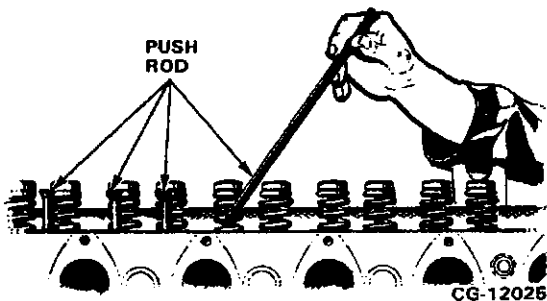

Figure 4.6. Remove the Push Rods
4. Remove the push rods, after measuring camshaft lobe lift. Refer to Figure 4.6.